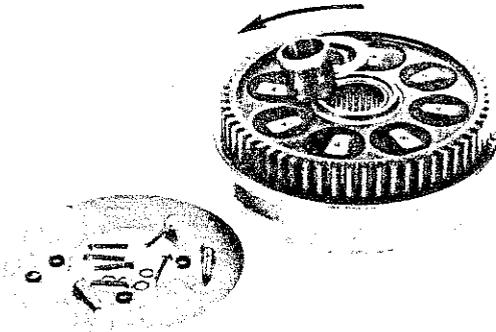

Fig. 119
- 15) Togliendo gli otto bulloncini e il disco di lamiera si accede al parastrappi; notare la disposizione degli elementi in gomma rispetto al verso di rotazione (Fig. 119).
- 15) Remove the eight bolts and the sheet disc to dismantle the shock absorber. Note the position of the rubber blocks with respect to the direction of rotation (Fig. 119). The thrust bearing ring can be removed from the clutch drum tapping lightly the roller bearing inner race from the inner side of the drum with a hammer and a soft metal (aluminium or copper) drift. The caged rollers can be removed from the drum; tap the outer ring with a hammer and a soft metal drift.
- 2) Osservare il verso di montaggio degli elementi in gomma del parastrappi (vedere Fig. 119 e Fig. 125).
- 2) Make sure to fit the shock absorber rubber blocks the right way round (refer to Figs. 119 and 125).